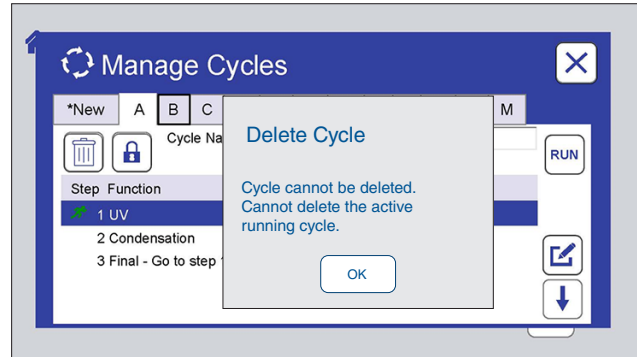

Figure 9.6.2b: The active running cycle cannot be deleted. Touch OK to clear message.
- An actively running cycle cannot be deleted (Figure 9.6.2b).